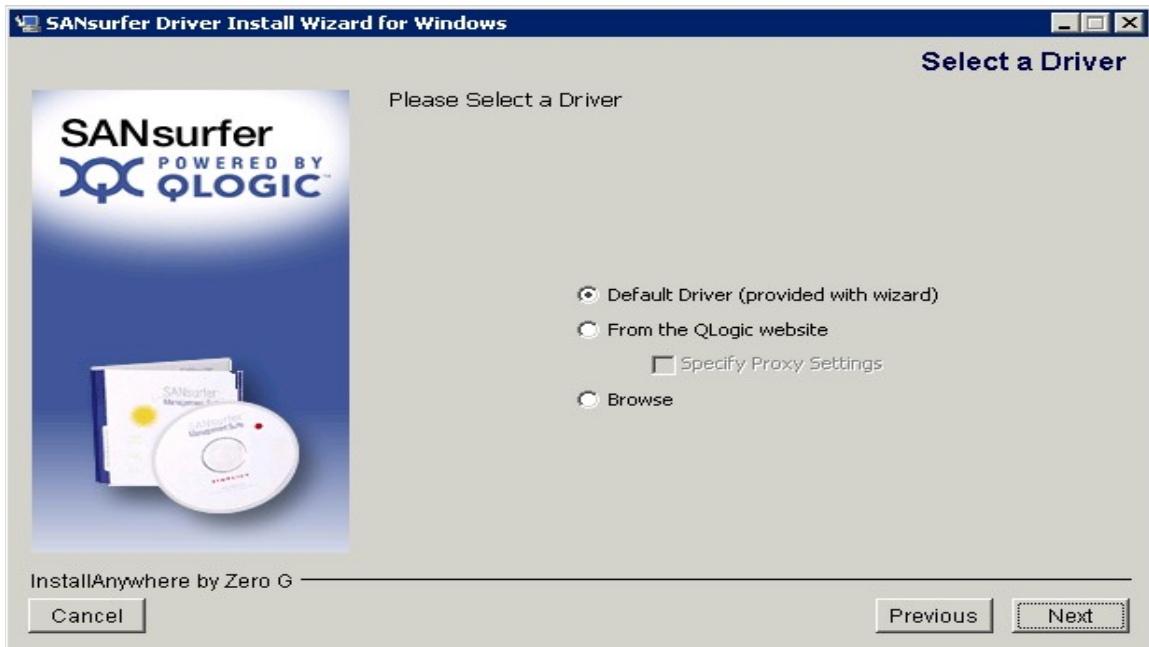
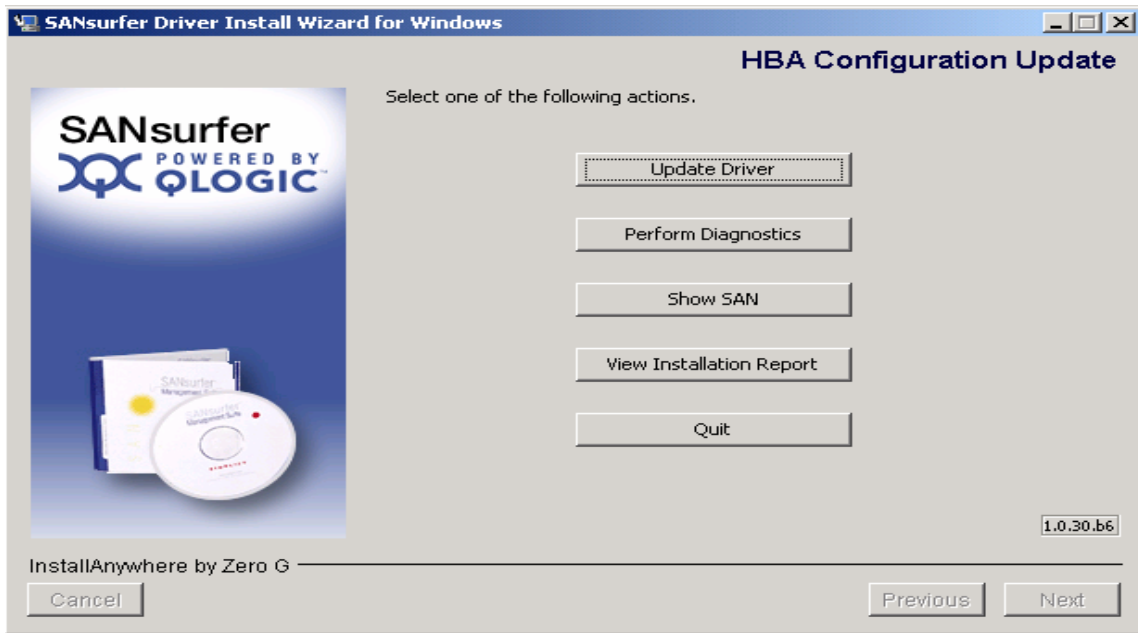
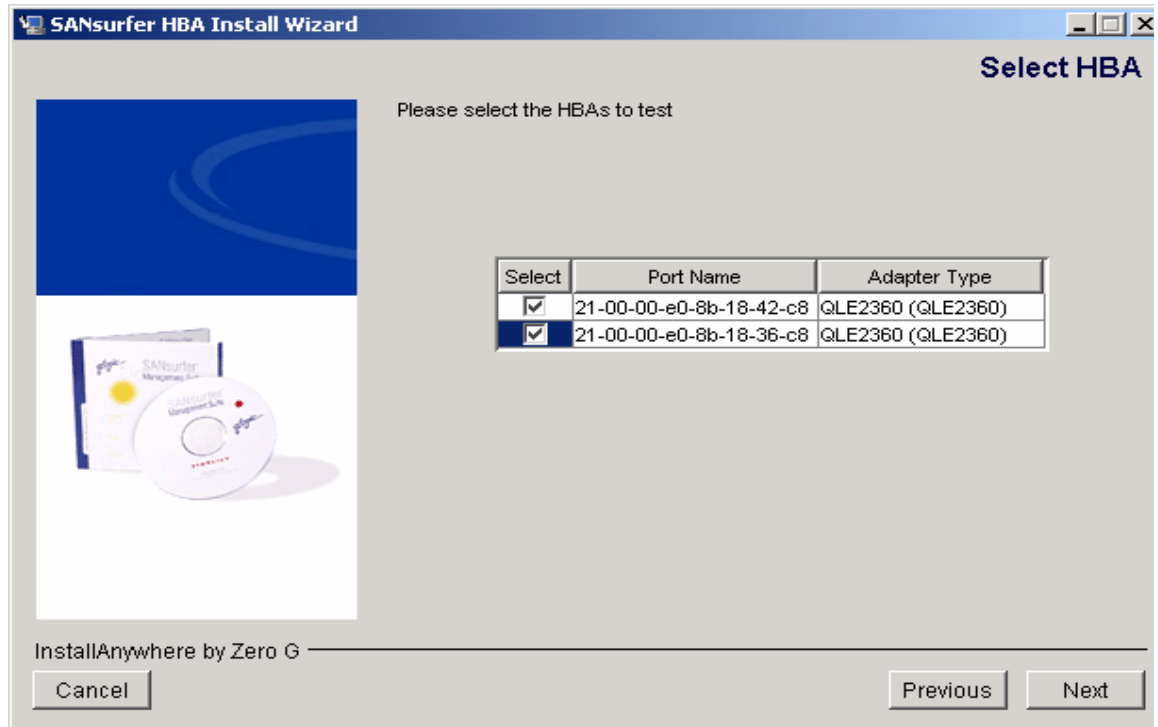

Figure 42 SANsurfer driver selection
Figure 46 SANsurfer driver installation complete
Figure 47 SANsurfer HBA install wizard
Note: If you are upgrading your HBA driver, you will be taken to the HBA Configuration Update screen shown in Figure 46 on page 67. At this point, click the Update Driver button. You will be taken to the driver selection screen shown in Figure 42 on page 63. Select the driver you wish to install, and proceed with the procedure at Step 4 on page 64.
1. From the **HBA Configuration Update** screen, click **Perform Diagnostics** (refer to Figure 46). The **SANsurferHBA Install Wizard** window will appear, as shown in Figure 47 on page 68.